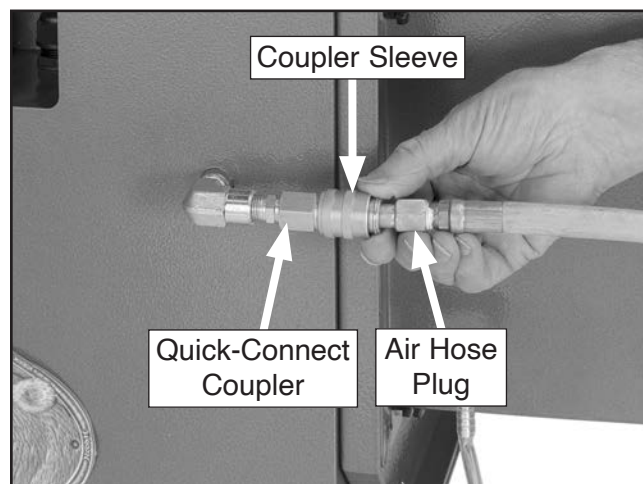

Figure 39. Inserting plug into coupler.
1. Push back sleeve on downdraft table quick-connect coupler, insert air hose plug into coupler, then release coupler sleeve to lock it in place (see **Figure 39**).